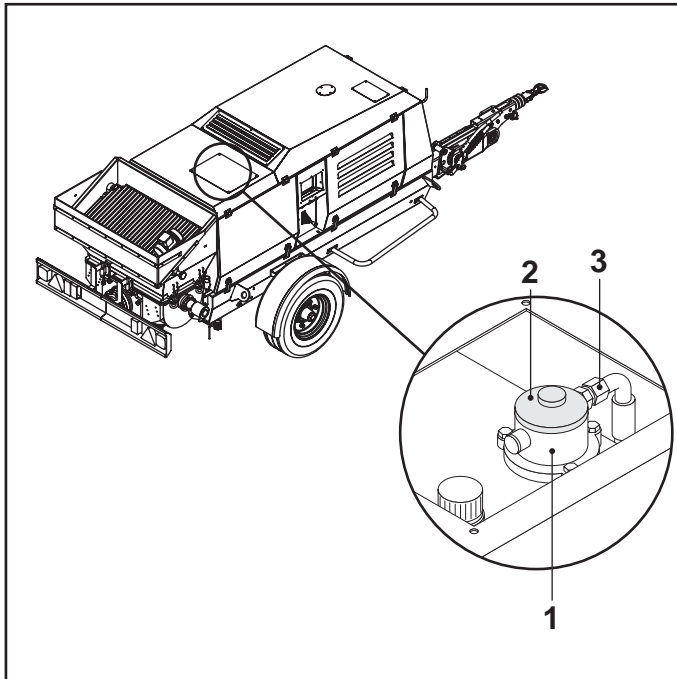

FIG.56
- Loosen the four screws from the oil filter inspection carter located on the fixed bodywork, to replace the filter (FIG.56-REF.1).
- Loosen the filter cap (FIG.56-REF.2), remove and replace the filter cartridge.
- Tighten the cap again (FIG.56-REF.2) and close the inspection carter using the screws.
- Disconnect the hydraulic duct (FIG.56-REF.3).